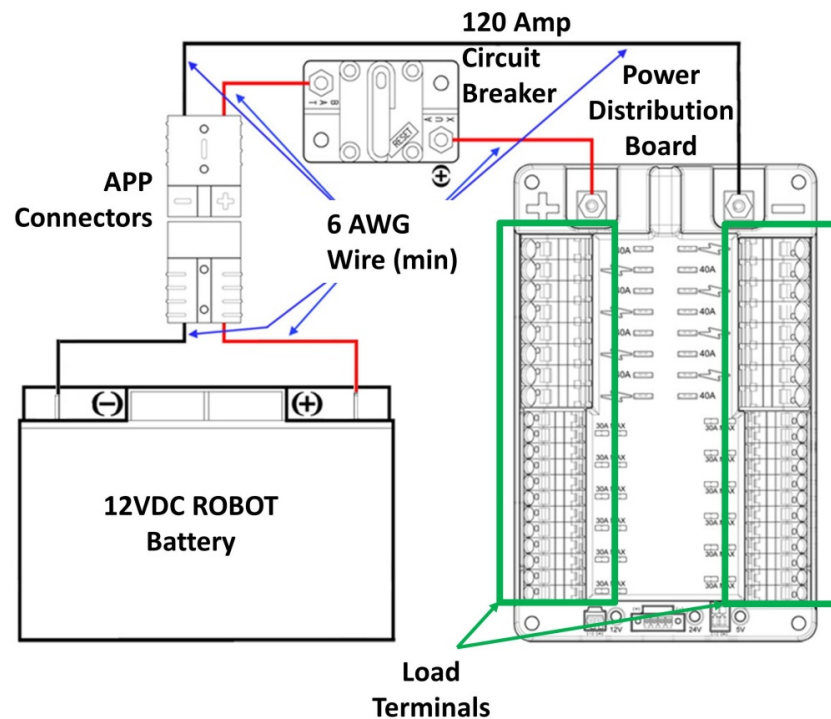
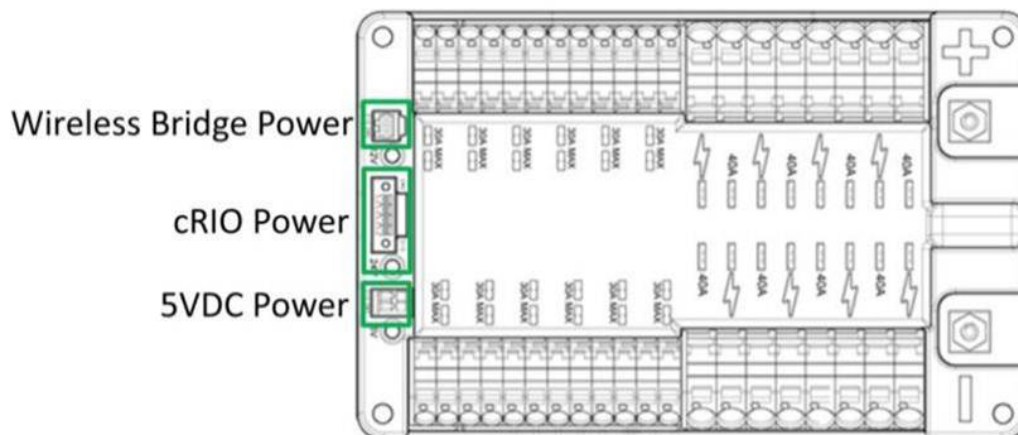

Figure 4-11: Main Power Distribution
Figure 4-12: Wireless Bridge, cRIO, and 5VDC Power Connections
The one ROBOT battery, Anderson Power Products (or APP) Connectors (p/n SB50), the one main 120-amp (120A) circuit breaker (Cooper Bussman P/N: CB185-120), and the one Power Distribution (PD) Board shall be connected as shown in Figure 4-11.
All circuits, with the exceptions of those listed in R42 and R45, must connect to, and have power sourced solely by, a single protected 12VDC WAGO connector pair (i.e. the Load Terminals, as shown in Figure 4-11) or the 5VDC supply on the PD Board (as shown in Figure 4-12), not the M6 shanks.
The cRIO power input must be connected to the 24VDC supply terminals on the PD Board shown in Figure 4-12.
The Wireless Bridge power must be supplied by the 12VDC-to-5VDC converter (P/N: CLL25-24S05) connected to the marked 12VDC supply terminals at the end of the PD Board, and not the main WAGO connectors along the sides of the PD Board shown in Figure 4-12. No other electrical load may be connected to these terminals.